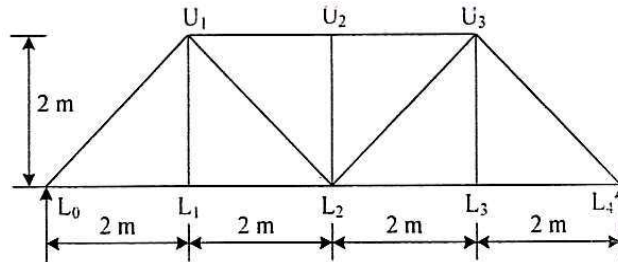

Fig. 6
- (b) Draw the influence line diagram for the members U_1 , U_2 , L_1 , L_2 and $U_1 L_1$ of a truss as shown in Fig. 6. [6]